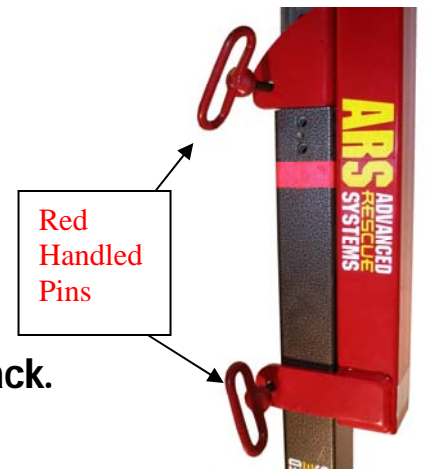

Figure 3
Step 4. Replace the two red handled pins. Place one pin through center section of strut jack and the second pin through the bottom ears of strut jack. (Figure 3)